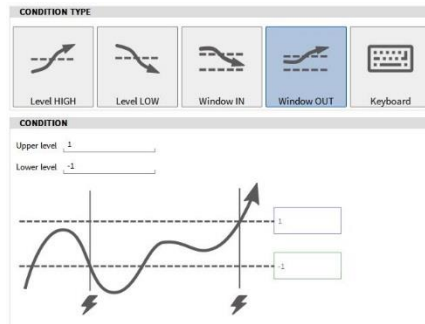

Figure 7-6: Trigger on *Window OUT*
- Window OUT: Activate Event if selected signal is out of a certain range. The user can define an upper and a lower limit (see Figure 7-6).